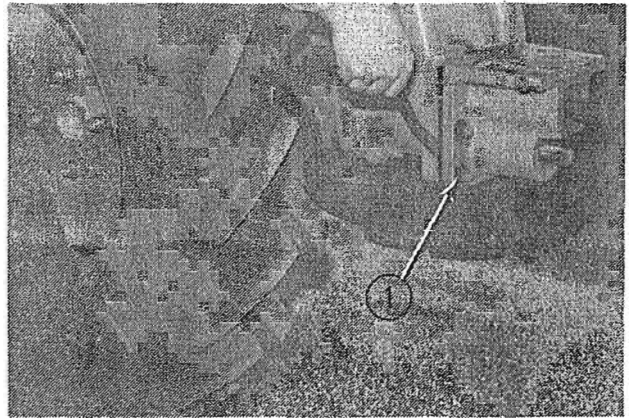

FIG. 2
(3) Remove (4) 14 mm. nuts and disassemble the shaft support casting. (1, Fig. 2)